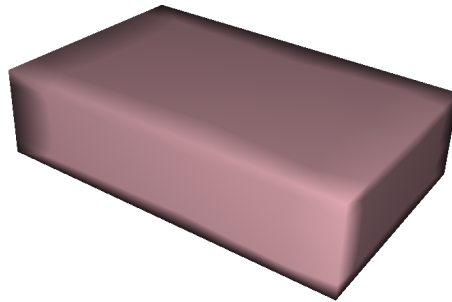

Figure 6: Skin2 visual
- Visual model: triangles (identity mapping from collision): Fig 6